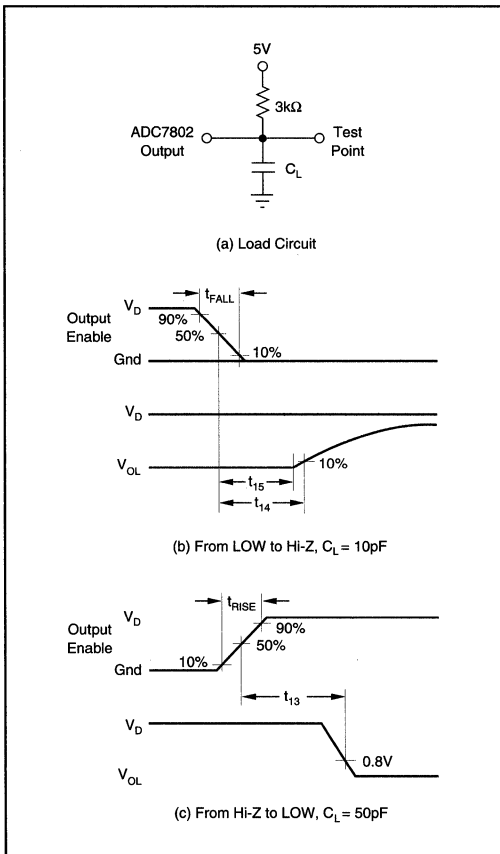

FIGURE 7. Measuring Active LOW to/from Hi-Z State.
NOTES: (1) All input control signals are specified with $t_{\text{RISE}} = t_{\text{FALL}} = 20\text{ns}$ (10% to 90% of 5V) and timed from a voltage level of 1.6V. Data is timed from V_{IH} , V_{IL} , V_{OH} or V_{OL} . (2) The internal $\overline{\text{RD}}$ pulse is performed by a NOR wiring of $\overline{\text{CS}}$ and $\overline{\text{RD}}$. The internal $\overline{\text{WR}}$ pulse is performed by a NOR wiring of $\overline{\text{CS}}$ and $\overline{\text{WR}}$. (3) Figures 7 and 8 show the measurement circuits and pulse diagrams for testing transitions to and from Hi-Z states.